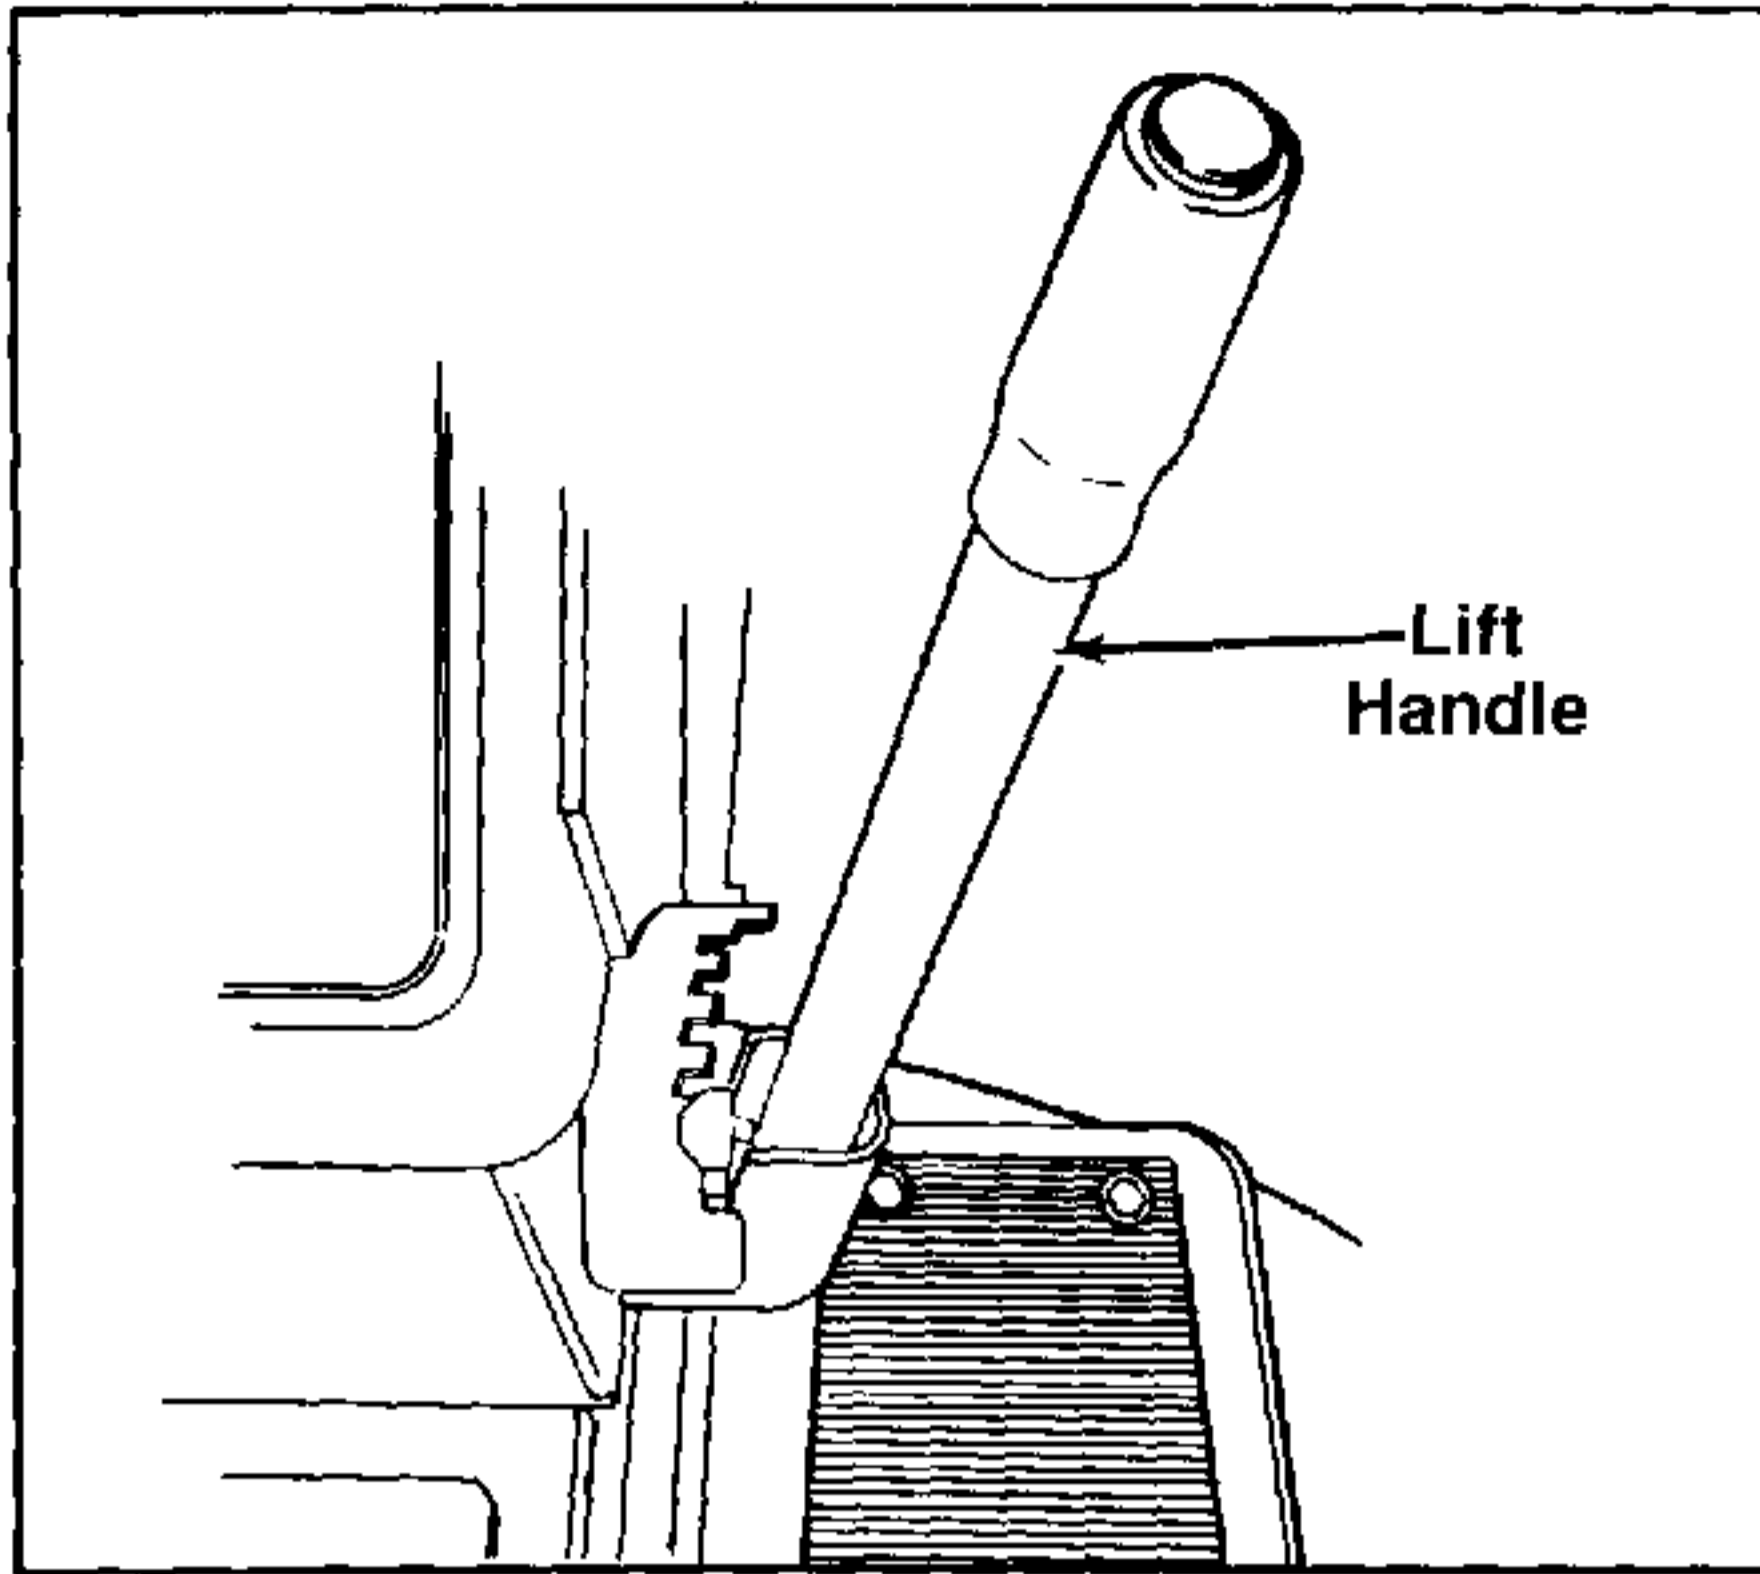

FIGURE 11.
2. Place the lift handle (figure 11) in position number 6.
7. Begin by placing the lift handle in position number 1. Refer to figure 11. Remove the hairpin cotter and flat washer which secure the front lift link to the lift carriage lift pin. Remove the front lift link from the lift carriage lift pin.